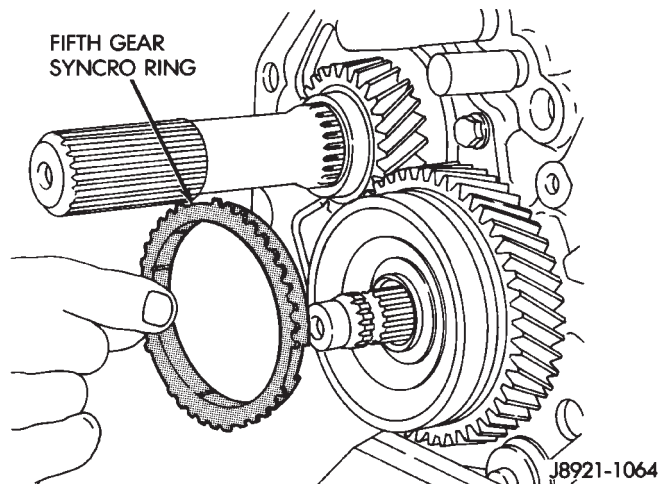

Fig. 102 Installing Fifth Gear Synchro Ring
(6) Install synchro ring in synchro sleeve (Fig. 102).